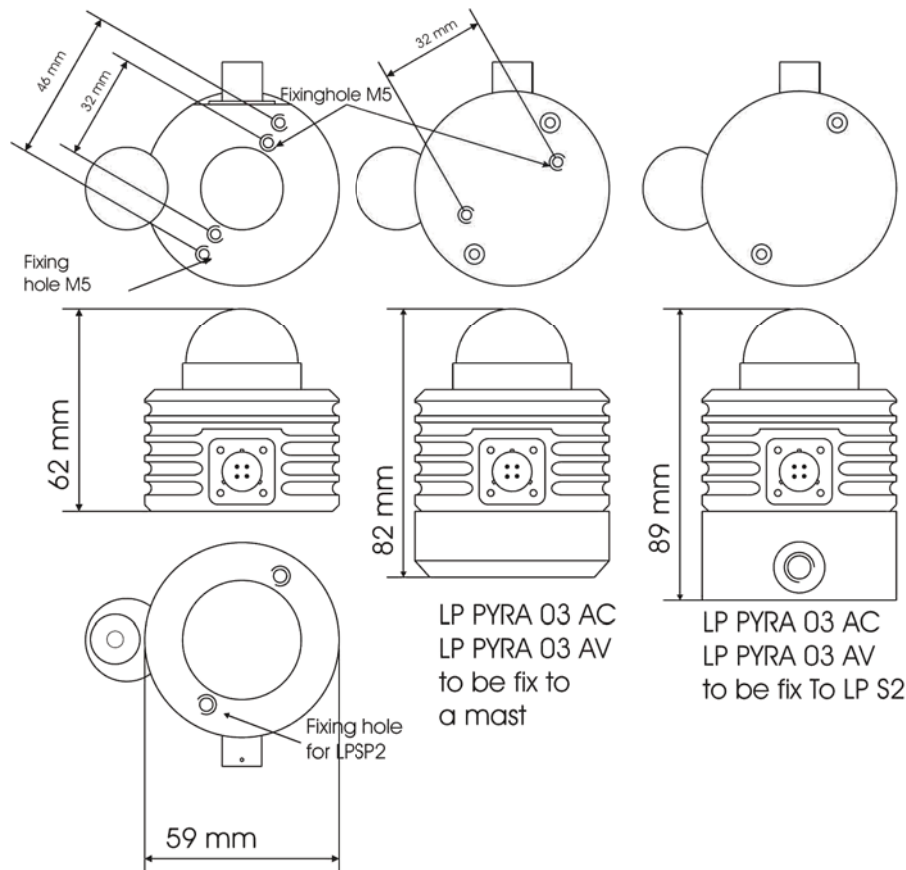

Fig 1
- In order to allow an accurate horizontal positioning of the instrument, use the holes on the pyranometer body or suitable accessories (figure 1,2).